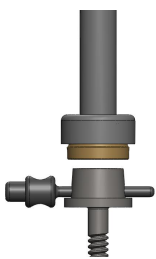

Fig. 2
2. Using a Black Parallel Post (contained in Locator Retrofit Female package Zest order No. 1747-2 and No. 1747-10) as a handle, place a Locator Retrofit Female onto the ERA Attachment to visually approve the proper fit. Make sure the slots on the Locator align with the Weep Hole Alignment Pin. (Fig. 2)